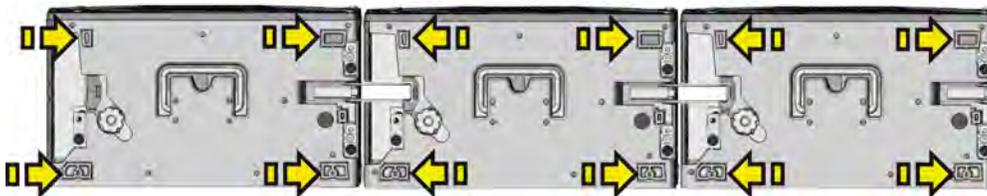

Figure 2-9 Interface Pads Along Top of Christie MicroTiles
10. Once the first row is assembled, place a straight edge onto the interface pads, along the tops of the tiles to ensure the row is flat (**Figure 2-9**). If needed, adjust the vertical screws (if mounted to leveling feet) and M6 screws. **NOTICE! Poor alignment of the first row limits the size of the array that can be built.**